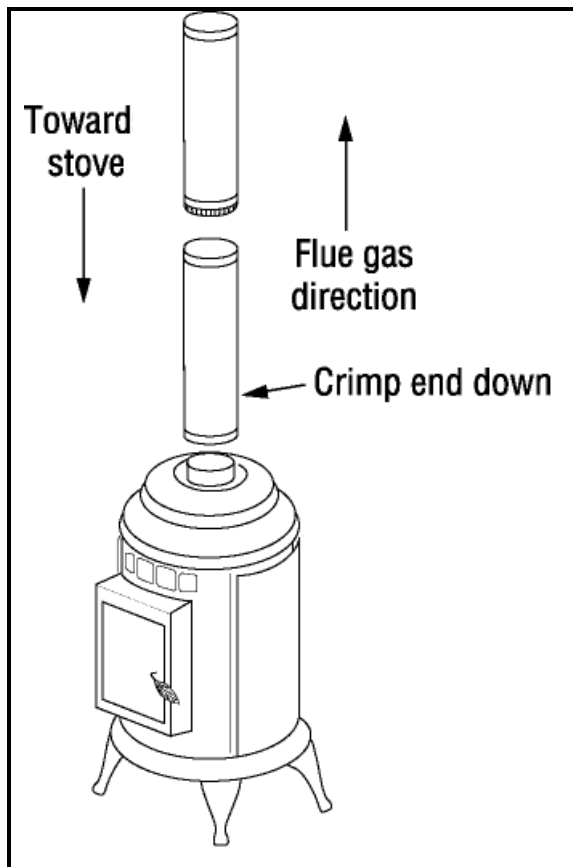

FIGURE 6. CHIMNEY CONNECTOR AND FLUE COLLAR
The chimney connector, also known as the flue or stove pipe, joins the stove to the chimney (see Figure 6). It must be 6” (152mm) minimum diameter, 24 MSG black or blued steel, or an approved air-insulated double wall-venting pipe.
1. **Chimney Connector:** This must be at least 24-gauge mild steel or 26-gauge blue steel. The sections must be attached to the stove and to each other with the crimped (male) end pointing toward the stove (see FIGURE 6). All joints, including the connection at the stove collar, should be secured with three sheet metal screws. Make sure to follow the minimum clearances to combustibles (see FIGURE 4). Where passage through the wall or partition of combustible construction is desired, the installation shall conform to CAN/CSA-B365 (check with local building officials).